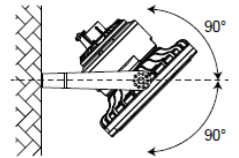

Figure 6
5. Attach a suitable waterproof conduit and fitting per local standards, ensuring a proper connection and tight seal. The fixture angle can be adjusted 90-degrees upward or downward by adjusting the screws joining the bracket to the fixture (Figure 6).